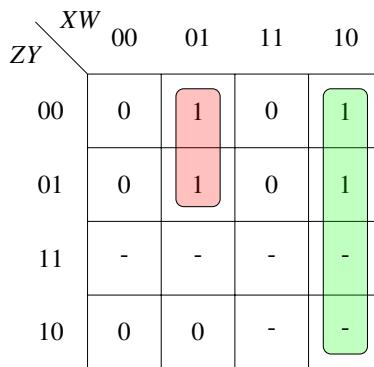

Fig. 4.6: K-map for  $B$  with don't cares
3. The revised K-map for B is available in Fig 4.6. Show that